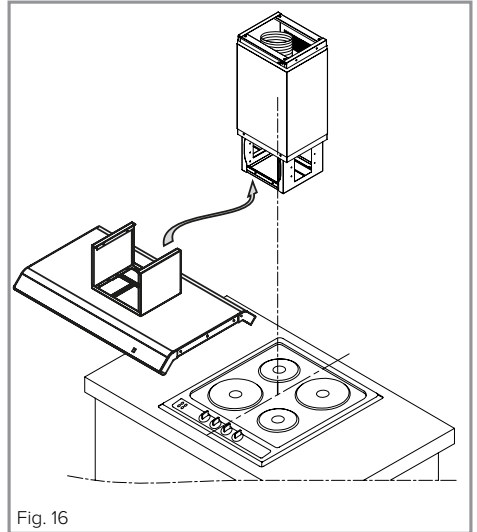

Fig. 16
- Attach the extractor body to the installation cage at the desired height (Fig. 16). There are 5 pairs of holes on the left and right sides of the cage which allow for this. Use the remaining four screws supplied. Ensure that the minimum heights are observed as per page 11. If not, now is the time to make any adjustments.